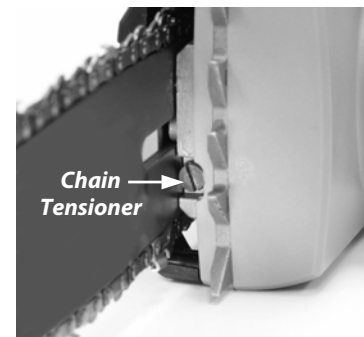

Figure 8
2. Turn the Chain Tensioner (Figure 8) clockwise with a Screwdriver to tension the Chain as required and then retighten the Guide Bar Screw.